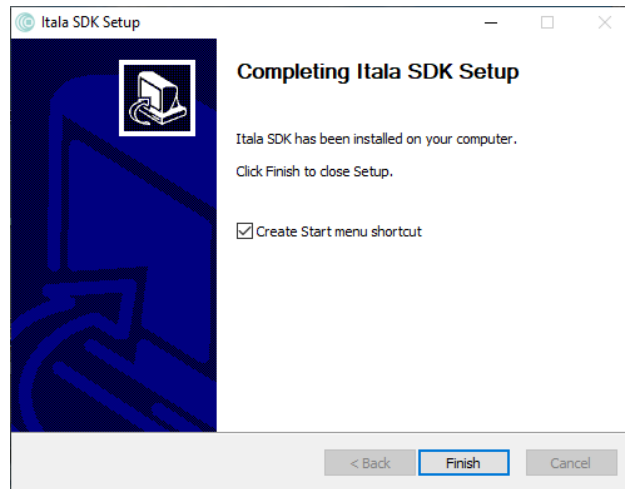

Figure 19: Itala SDK installation finished successfully.
- The Itala SDK installation will be performed automatically. The progress bar can be monitored to check the installation status. At the end of the installation, a confirmation window will be displayed (Fig.19).